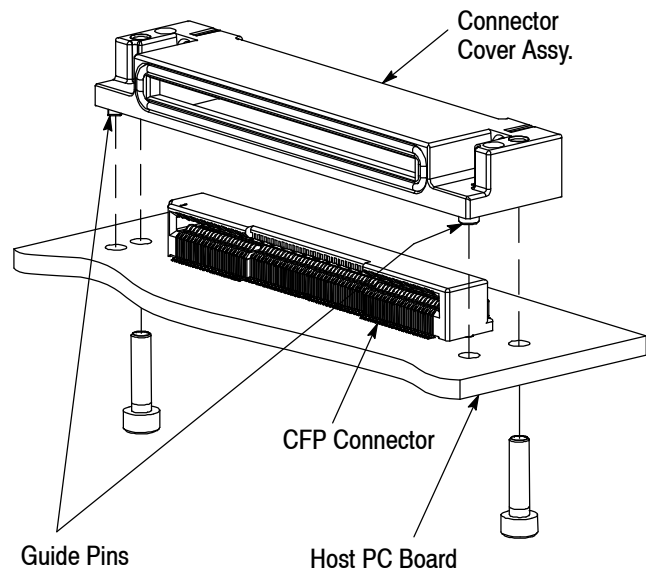

Figure 3
2. Place the connector cover assembly over the connector assembly such that the guide pins are inserted in the guide pin holes. Be careful to avoid damaging the soldered contacts. Fasten the cover assembly with two M3 screws. Refer to Figure 3. Take care to tighten the screws sufficiently to ensure compression of the bottom EMI gasket.
2. Place the connector cover assembly over the connector assembly such that the guide pins are inserted in the guide pin holes. Be careful to avoid damaging the soldered contacts. Fasten the cover assembly with two M3 screws. Refer to Figure 3. Take care to tighten the screws sufficiently to ensure compression on the bottom EMI gasket.